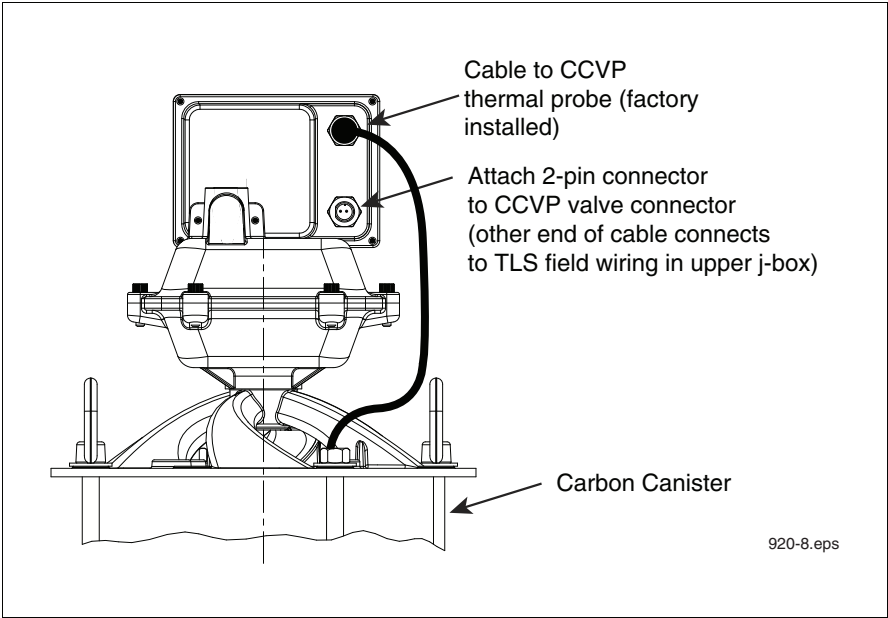

Figure 4. Locating the CCVP vapor valve connector
- Consult figure 4 along with the National Electrical Code and the compliance section of 576013-879 TLS-3XX Series Consoles Site Prep Manual before installing the CCVP into the hazardous location. If the Carbon Canister is being wired directly to a TLS console, a 2-conductor, 18 AWG shielded cable must be installed in intrinsically safe conduit from the intrinsically safe wiring compartment of the TLS console to the carbon canister. Use of direct burial cable may be subject approval by the local authority having jurisdiction. See manual 576013-858 for a complete listing of required materials and an overview of direct burial installations.
10. Connect the two-pin connector of the 6-foot cable provided in the installation kit to the CCVP vapor valve, observing plug polarities (see Figure 4). The other end of this cable is passed through a kit supplied cord grip in the upper junction box.